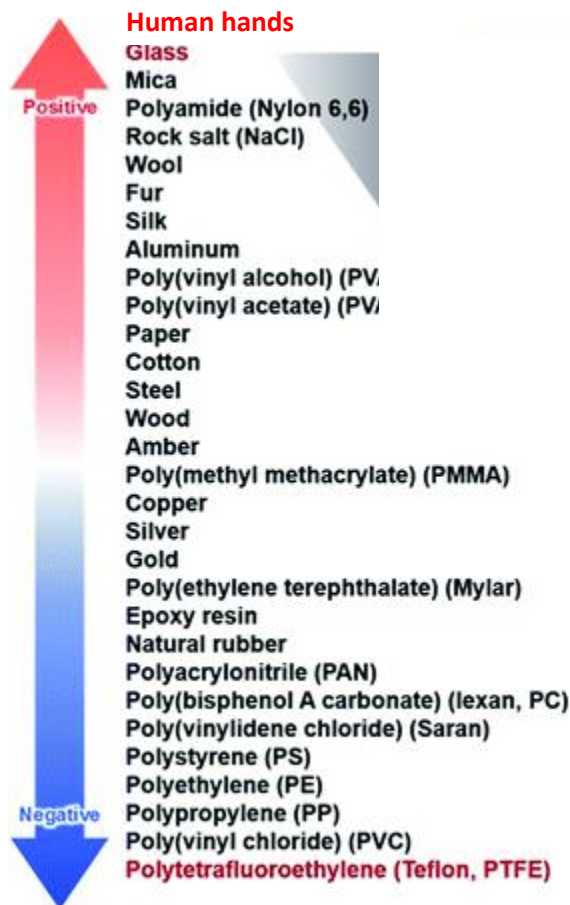

Figure 29 - Triboelectric Series
- VI.4 **Triboelectric Effect (source MIL-HDBK-263B (48)):** *“The generation of static electricity caused by contacting or rubbing two substances is called the triboelectric effect. A triboelectric series is a list of substances in an order of positive to negative charging as a result of the triboelectric effect. A substance higher on the list is positively charged (loses electrons) when contacted with a substance lower on the list (which gains electrons). The order of ranking in a triboelectric series is not always a constant or repetitive. Furthermore, the degree of separation of two substances in the triboelectric series does not necessarily indicate the magnitude of the charges created by triboelectric effect. Order in the series and magnitude of the charges are dependent upon the properties of the substance, but these properties are modified by factors such as purity, ambient conditions, pressure of contact, speed of rubbing or separation, and the contact area over which the rubbing occurs. **In addition to the rubbing of two different substances, substantial electrostatic charges can also be generated triboelectrically when two pieces of the same material, especially common plastic in intimate contact, are separated as occurs when separating the sides of a plastic bag. Some metals, can create significant charges from triboelectric generation. Aluminum, when rubbed with a common plastic can generate substantial electrostatic charges.”***
- VI.5 **Figure 29** is a Triboelectric series showing relative positions of various materials obtained from *Effect of the relative permittivity of oxides on the performance of triboelectric nanogenerator*, Yeon Joo Kim, Jaejun Lee, Sangwon Park, Chanhoo Park, Cheolmin Park and Heon-Jin Cho, *RSC Adv.*, 2017, 7, 49368; modified to show the position of human hands.